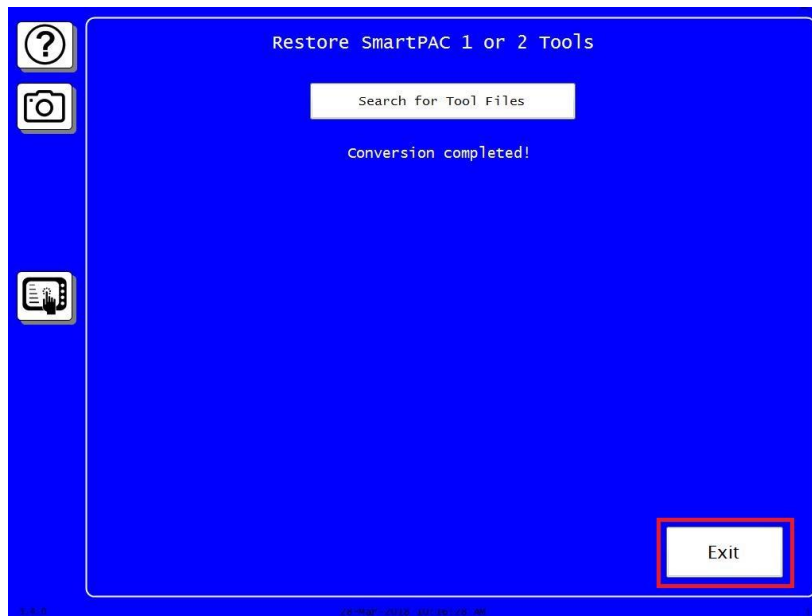

Figure 7. Conversion completed! Message
7. The conversion process and restoring of your tools to the SmartPAC PRO takes only a moment to complete. When you see the *Conversion completed!* message (Figure 7), press **Exit**. Then navigate to the Tool Manager in Program Menu and verify that the tools have been restored.